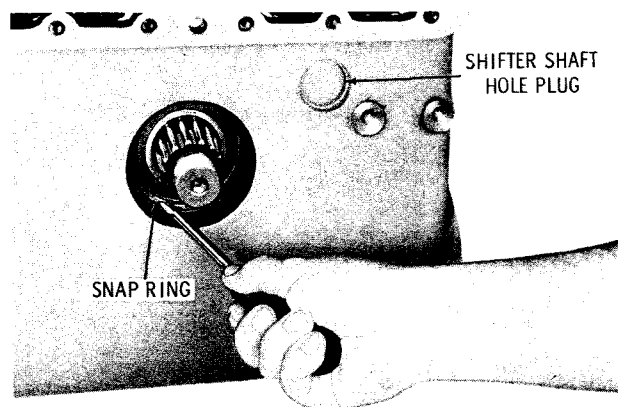

Fig. 5-34. Removing output shaft front bearing snapping
(2) Remove the snapping that retains the output shaft bearing in the housing bore (fig. 5-34). Do not remove the shifter shaft hole plug unless replacement is necessary.
(9) Remove the front oil seal only if necessary. If necessary, remove the seal as described in a(1), above.
(10) Remove the front snapring and output shaft bearing (refer to fig. 5-34) only if part replacement is necessary. If necessary, remove the snapring and, using a puller which will apply its force to the rear surface of the outer race, draw the bearing from its bore. If such a puller is not available, use a drift and tap evenly around the outer race to drive the bearing forward.
(11) Remove remaining parts from the transmission housing only if part replacement or additional servicing is required. Refer to paragraph 6-23 for the transmission housing rebuild instructions.